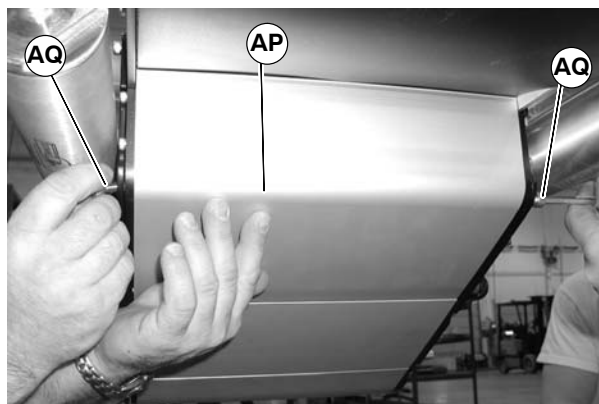

Figure 20
3. Temporarily support idler guard assembly (AP of Figure 20). Remove screws (AQ).